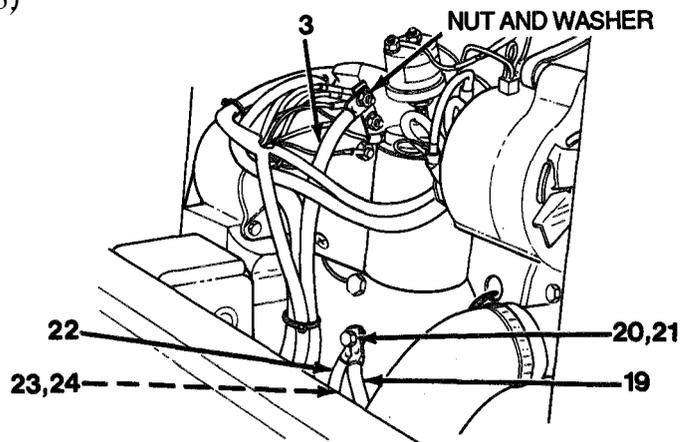
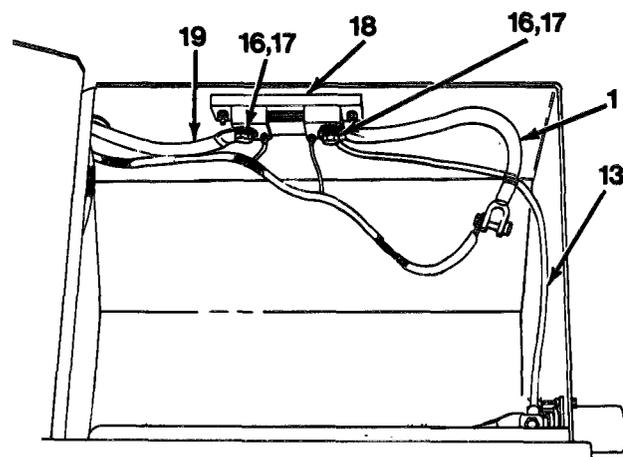

Figure 10-4
Figure 10-3
7. Remove nut and washer from starting motor (Figure 10-4).
8. Connect cable (3) to starting motor and install nut and washer.
9. Install cable (22), washer (24) and nut (23).
10. Connect cables (22) and (19) and install lock-washer (21) and bolt (20).
11. Connect cable (19) to shunt (18) and install washer (17) and capscrew (16, Figure 10-3)